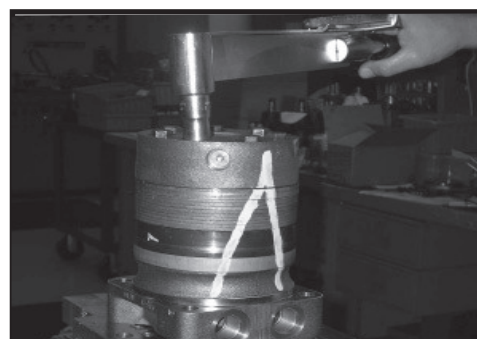

Figure 5
3. Remove the five, six, or seven special ring head bolts (1, 1A, 1B, or 1C) using an appropriate 1/2 or 9/16 inch size socket. SEE FIGURE 5. Inspect bolts for damaged threads, or sealing rings, under the bolt head. Replace damaged bolts. SEE FIGURE 6.